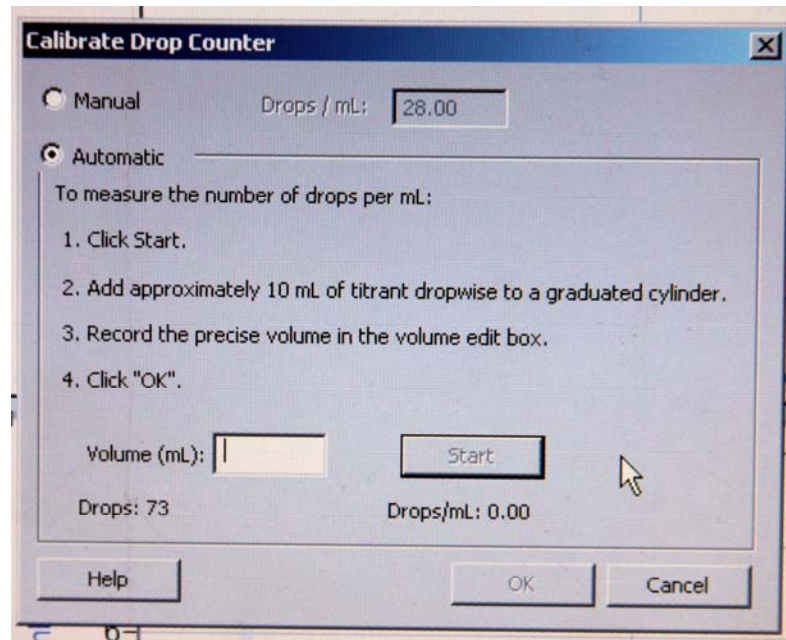

Figure 1. Drop counter setup
- c. Assemble the apparatus according to Figure 1. But do not put the pH sensor in the drop counter.
- Place a magnetic stirrer on or at the base of the ring stand. Place a 100 mL beaker on the center of the stirrer. (See Figure 1)